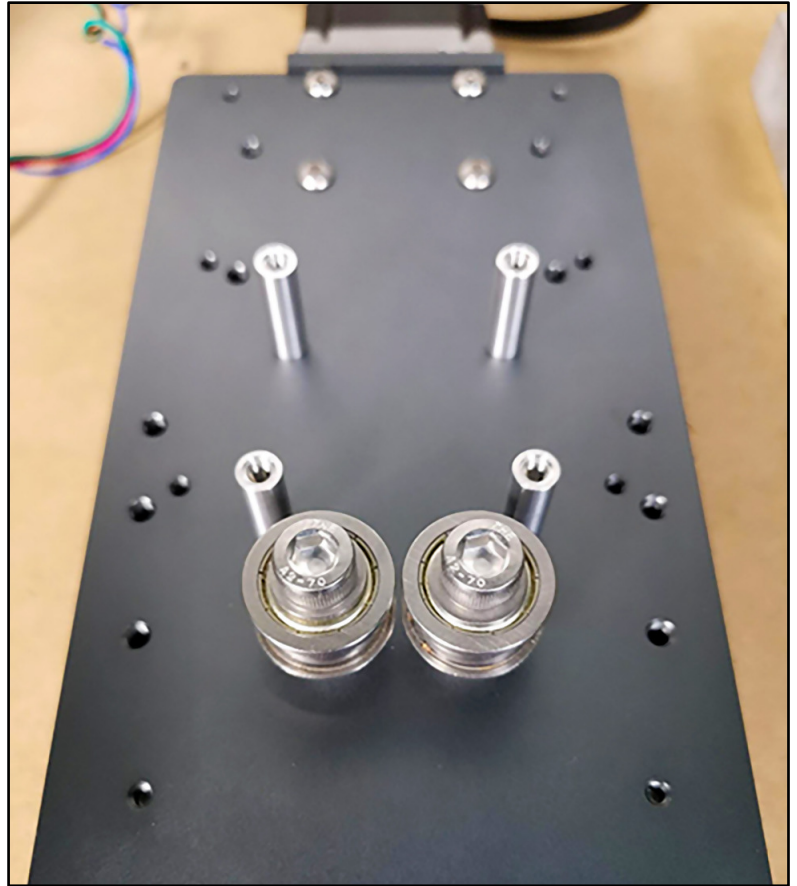

Figure 8
- M5 x 25mm Male-Female Threaded Standoffs for the X-Motor (4)
1. There are four M5 threaded holes in the center of the carriage just above the M8 bolts. Insert the four (4) M5x25mm X-motor standoffs into the four holes. Do **NOT** over-tighten the motor standoffs; they are made of aluminum. See **Figure 8**.